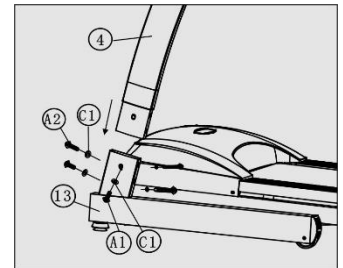

Figure 1
Insert Left upright tube (4) to base frame (13), and attach four half-round bolts M8X16 (A2), one Half-round bolt M8X40 (A1), and five Flat washers $\Phi 8$ (C1), Do not tighten all parts provisionally (see figure 1)